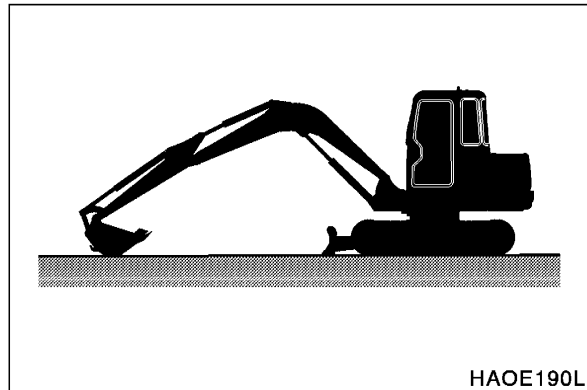

Figure 76
1. Park excavator on firm level ground. Lower bucket and blade to ground as shown in Figure 76.